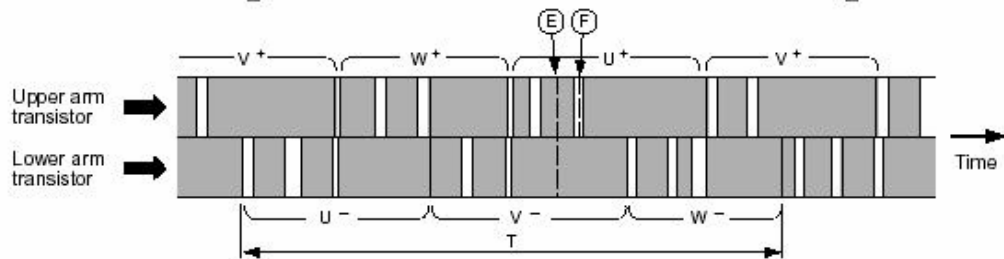

Fig. 4-2 Switching order of power module
The switching order is as shown in Fig. 4-2.
Time T in Fig. 4-2 shows the switching period, and relation with rotation speed (N) of the compressor is shown by formula below;